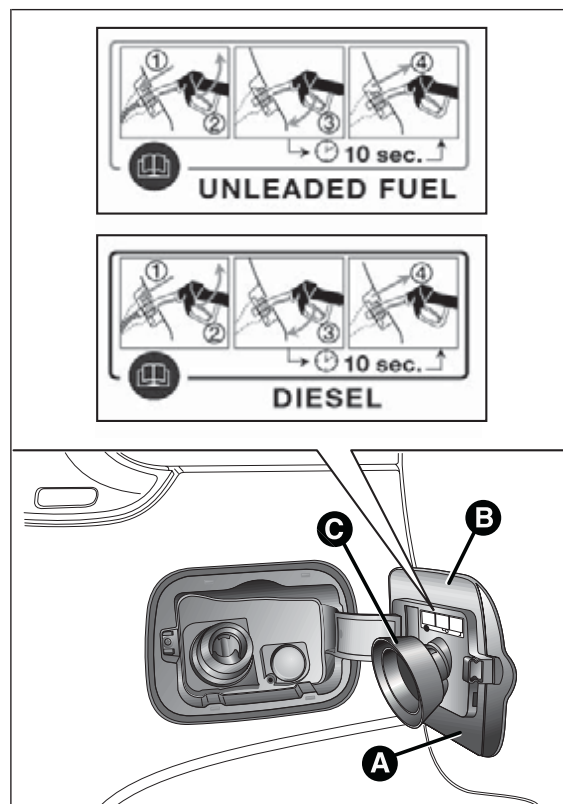

fig. 73
The refuelling procedure described below is illustrated on label B fig. 73, which is applied inside the fuel flap. The label also indicates the fuel type (UNLEADED FUEL=petrol, DIESEL=diesel fuel).
- ☐ open the flap A fig. 73 pulling it outwards;
Flap A fig. 73 is provided with a dust cowl C which prevents deposits of impurities and dust at the end of the filler when the flap is closed.